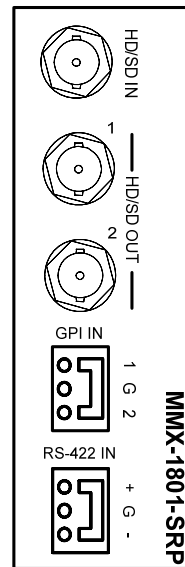

Figure 2.1 MMX-1801-SRP Rear Panel
- MMX-1801-SRP Single Rear Panel (see figure 2.1)
The MMX-1801 requires a single-width rear panel, as shown in figure 2.1